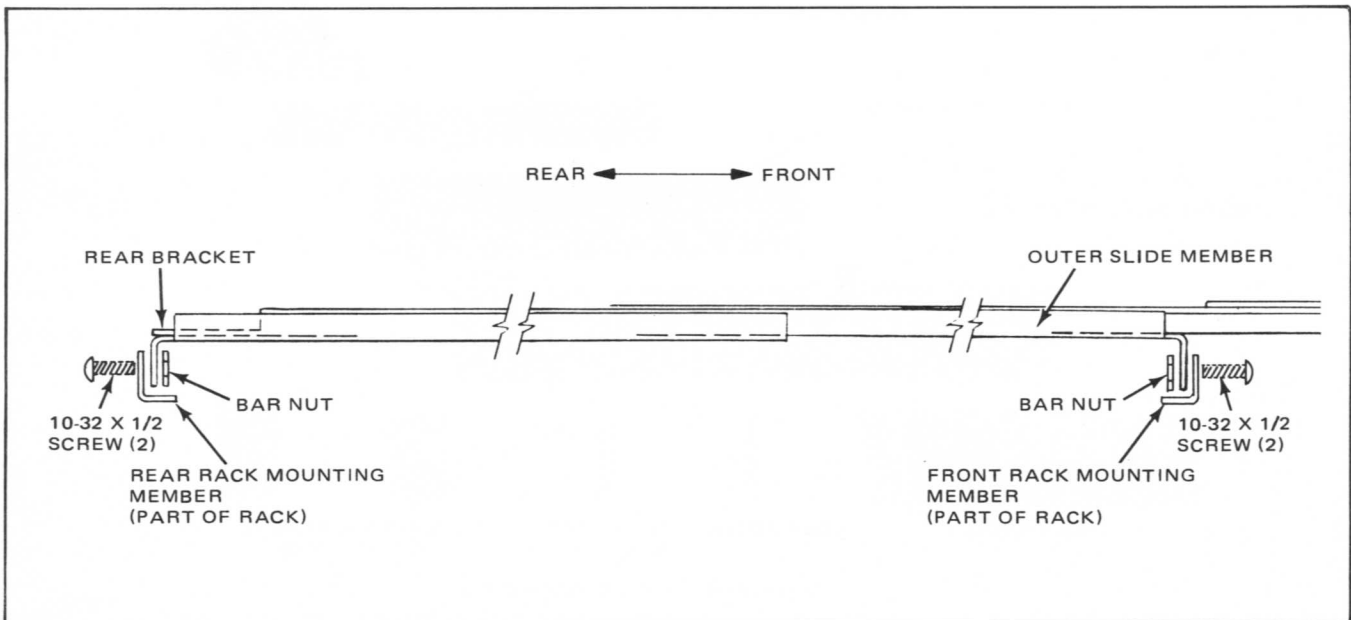

Figure 2-9. Left Hand Slide, Top View
6. Determine desired vertical mounting location on 19-inch rack. Fasten a threaded bar nut to each front rack-mounting member (Figure 2-9). Orientate the bar nut so that the offset holes in the bar nut are nearest the center of the rack. Use two 10-32 × 1/2 inch long
7. Mount a threaded bar nut on each rear rack-mounting member (Figure 2-9) in parallel to the bar nuts installed in step 6. Orientate the bar nut so that the offset holes in the bar nut are nearest the center of the rack. Use two 10-32 × 1/2 inch long screws for each bar nut but do not firmly tighten screws.
9. Slide the slotted flange of each rear bracket between the rear rack-mounting member (Figure 2-9) and the bar nut installed in step 7. Tighten screws.